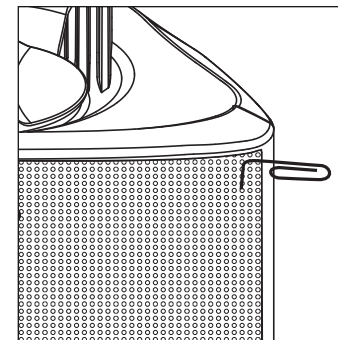

FIGURE 5: Remove the grille using a paper clip.
1. Separate the parts of the speaker: Remove the brackets and bracket knobs. Remove the grille by carefully hooking it with a bent paper clip and pulling it gently away from the cabinet [figure 5].